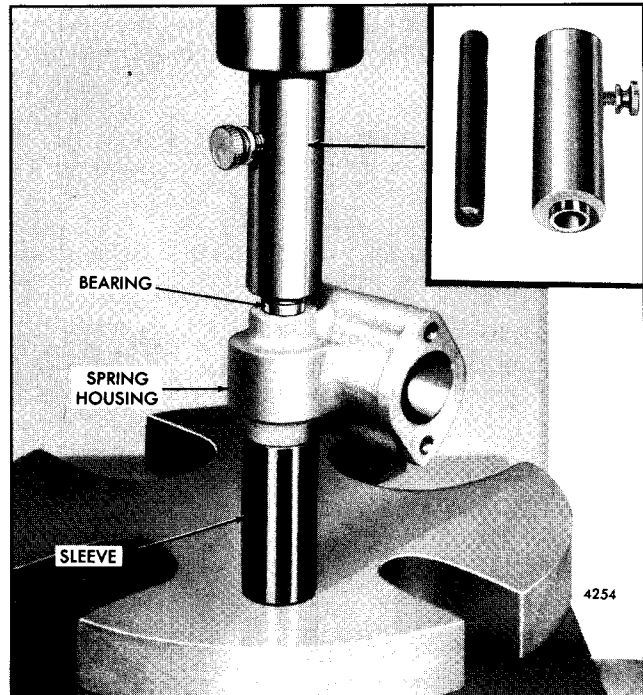

Fig. 15 - Installing Speed Control Shaft Bearing in Spring Housing using Tool J 9196
- c. Place the pilot rod end of the bearing installer assembly in the bearing. Support the spring housing, bearing and installer on a short sleeve on the bed of an arbor press as shown in Fig. 15.
- j. Remove the bearing pilot rod J 9196-2 from the installer body J 9196-1 and place the installer body over the end of the shaft and against the bearing. Support the spring housing, bearings and installer on a short sleeve on the bed of an arbor press as shown in Fig. 15, then press the bearing in the housing until the shoulder on the installer contacts the housing.